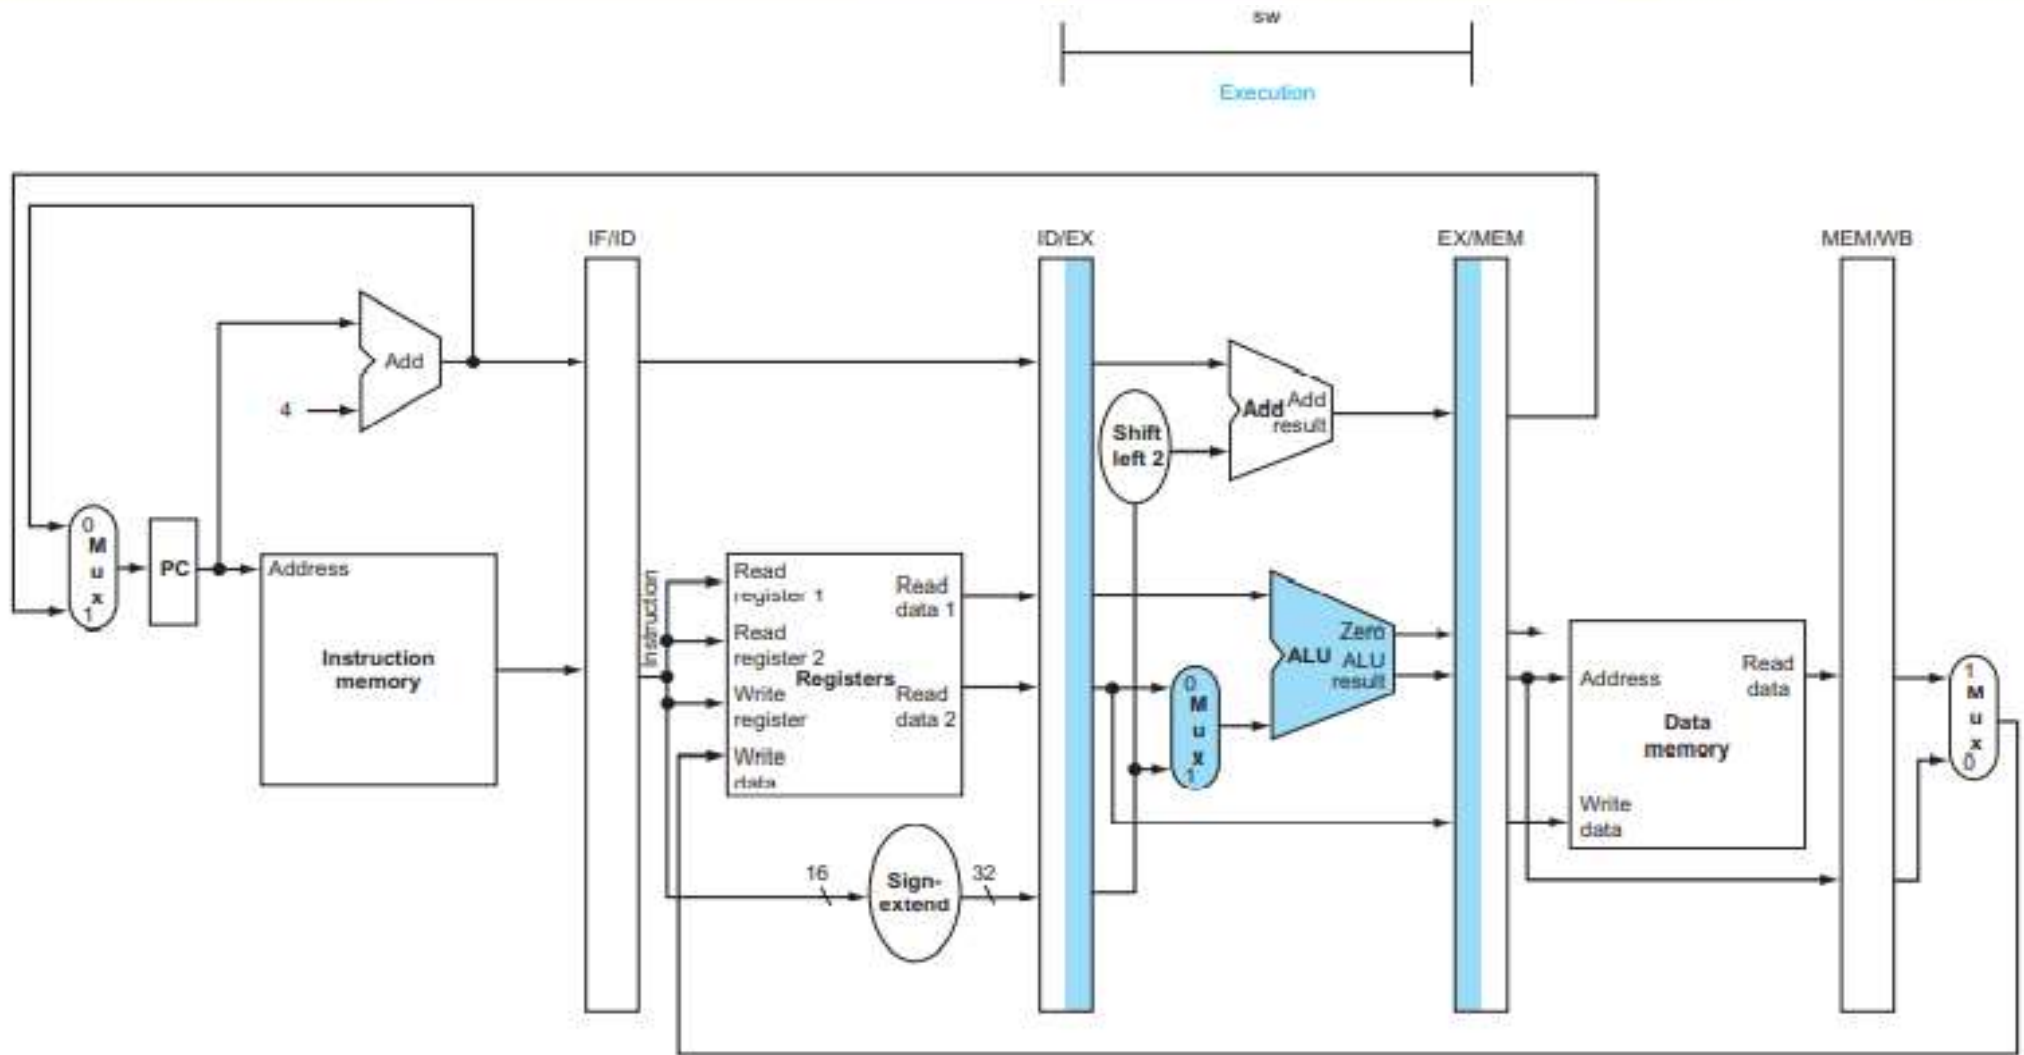

FIGURE 39 EX: The third pipe stage of a store instruction.
3. **Execute and address calculation**: Figure 39 shows the third step; the **effective address** is placed in the **EX/MEM** pipeline register.